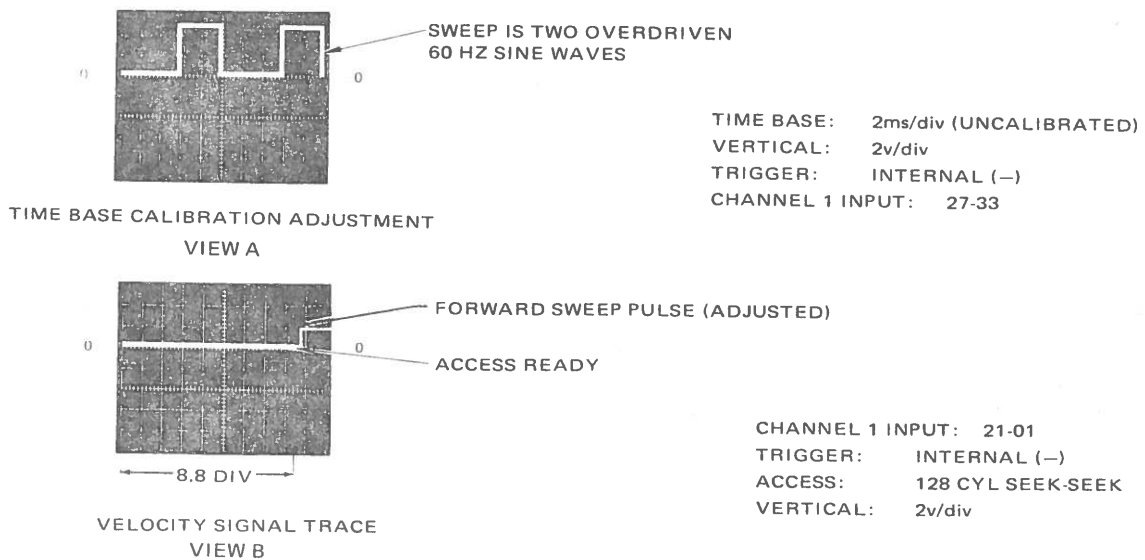

Figure 6-5. Scope Patterns for Access Velocity Safety Check/Adjustments
- e. Adjust variable time base to obtain two complete AC cycles displayed over 10 divisions as shown in view A, figure 6-5.
8. Observe scope pattern. Look for pulse that is displaced 8.8 divisions from start of sweep (figure 6-5, view B). A different displacement is required for 50-Hz drives as discussed in Appendix A.
Adjustment is made at potentiometer 136R10, located on the curve generator, PWA 15. Adjustment is made to obtain scope pattern figure 6-5, view B.